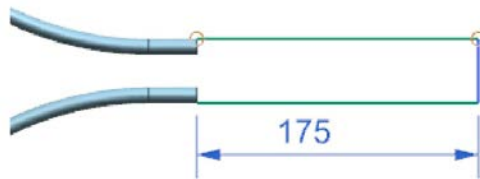

Figure 10-120 Sketch for the guide strings
6. Select the XC-YC plane as the sketching plane and create the guide strings, as shown in Figure 10-120.